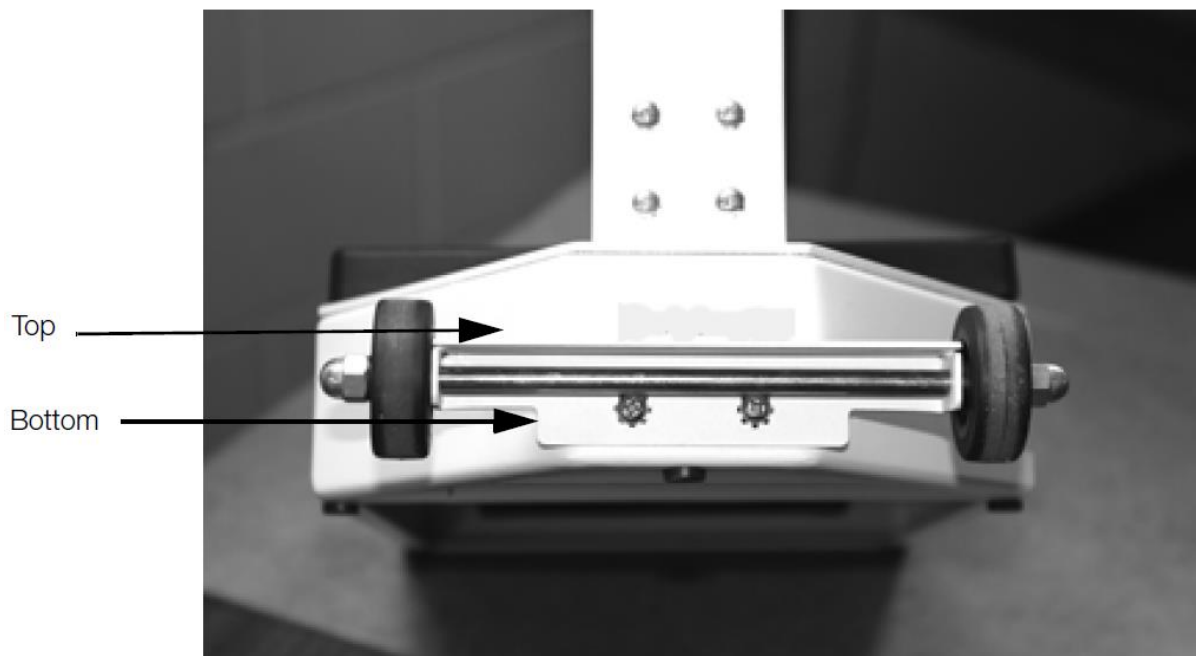

Figure 8. Attach the Scale Wheels onto the Scale Base
1. Align the angle iron of the wheel base to the scale platform as shown in Figure 8.